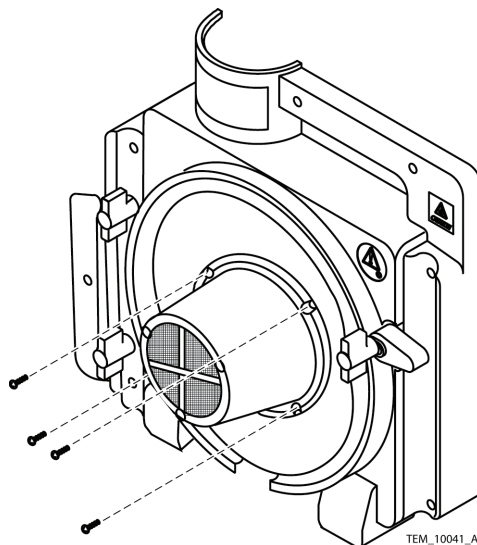

Figure 39. Blower Assembly Screws
3. Remove the four screws holding the blower assembly to the rear cover assembly. See Figure 39.